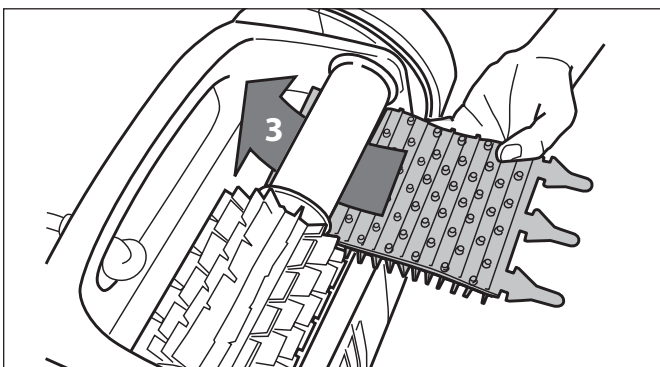

Figure 30. Install the New Brush
3. To install a new brush, position the new brush on the roller with the spikes facing downwards. Refer to Figure 30.